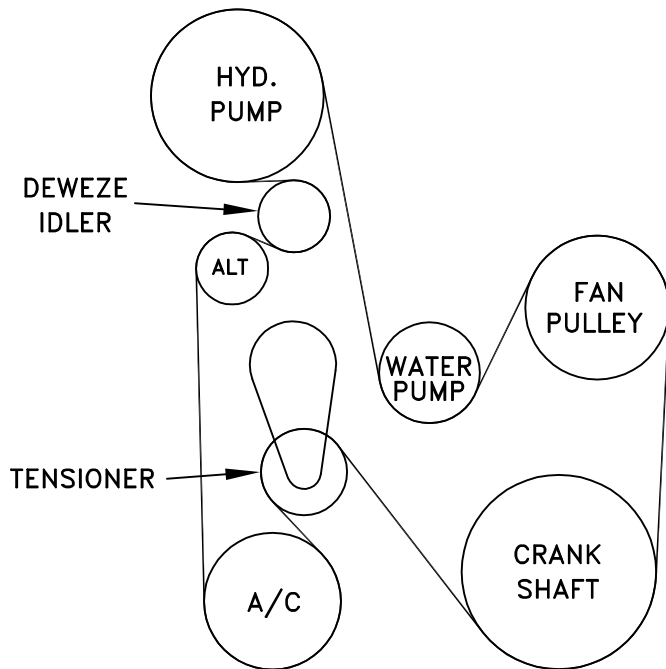

FIG. 7
3. Remove OEM tensioner by removing center bolt (14). Remove OEM idler pulley and washer from tensioner.
4. A notch must be ground in the back of the tensioner to clear the alternator. Grind back .350" from the edge and .450" deep (to edge of spring where it comes through the tensioner). See Fig. 7.
5. Install DewEze idler pulley (2) on tensioner using OEM shoulder bolt (13). Do not use OEM washer that was on rear of OEM idler.
6. Replace tensioner using OEM bolt (14).